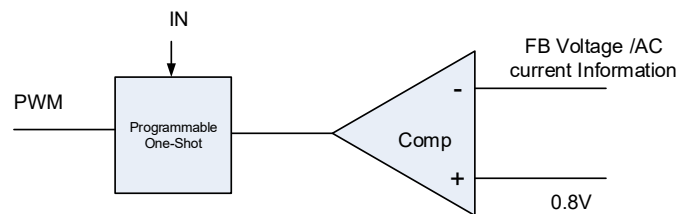

Figure 2. Simplified Control Schematic of AOZ2261BQI-28
The simplified control schematic is shown in Figure.2. The high-side switch on-time is determined solely by an one-shot whose pulse width is inversely proportional to input voltage (IN). The one-shot is triggered when the internal 0.8V is higher than the combined information of FB voltage and the AC current information of inductor, which is processed and obtained through the sensed low-side MOSFET current once it turns-on. The added AC current information can help the stability of constant-on time control even with pure ceramic output capacitors, which have very low ESR. The AC current information has no DC offset, which does not cause offset with output load change, which is fundamentally different from other V^2 constant-on time control schemes.